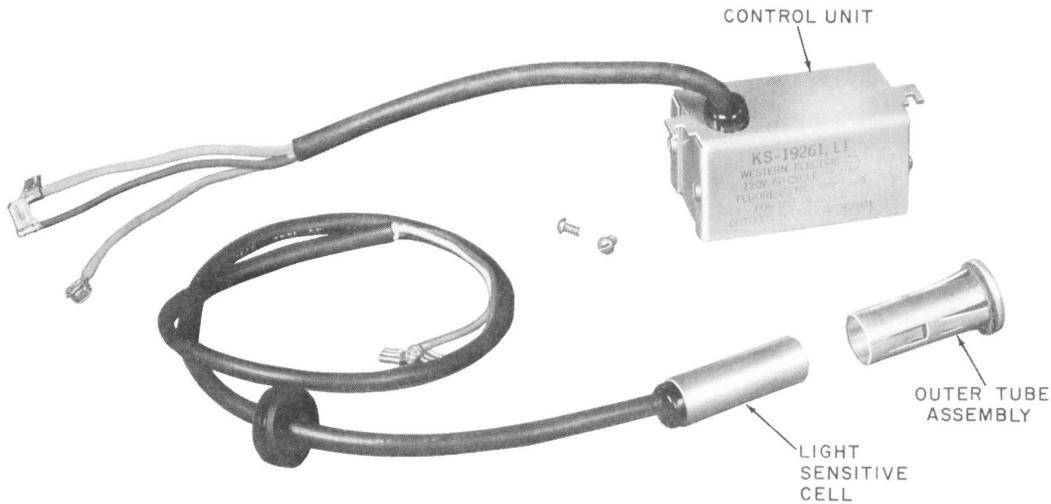

Fig. 1—KS-19261, List 1 Light Control Unit
2.03 The KS-19261, List 1 light control unit (Fig. 1) is used in outdoor booths equipped with a KS-19207 light and blower unit.
(e) Insert outer tube assembly (Fig. 1) through 11/16-inch hole in roof from outside until tabs lock behind edge of hole (Fig. 7).